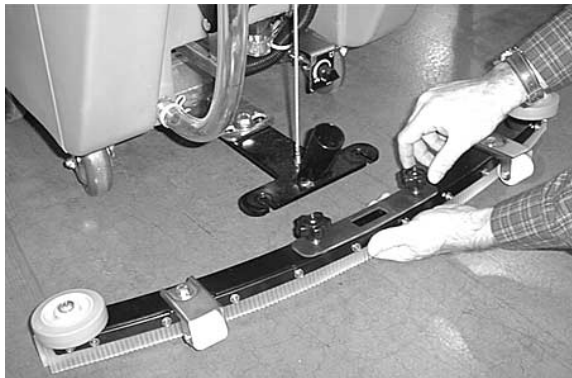

FIG. 4
- Loosen two thumb knobs on squeegee assembly and slide squeegee into slots on squeegee mount bracket. Squeegee roller wheels should face outward (Figure 4).